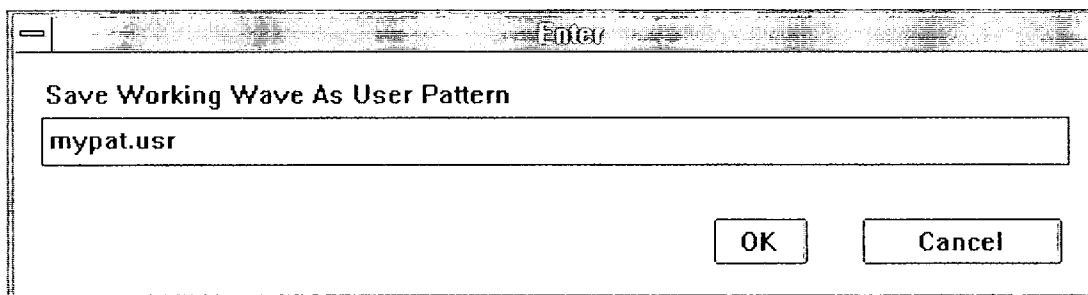

Figure 2-12. Load Pattern Dialog Box
5. Enter MYPAT.USR in the dialog box (Figure 2-12) to save the user pattern to a file and load it onto the removable cartridge.